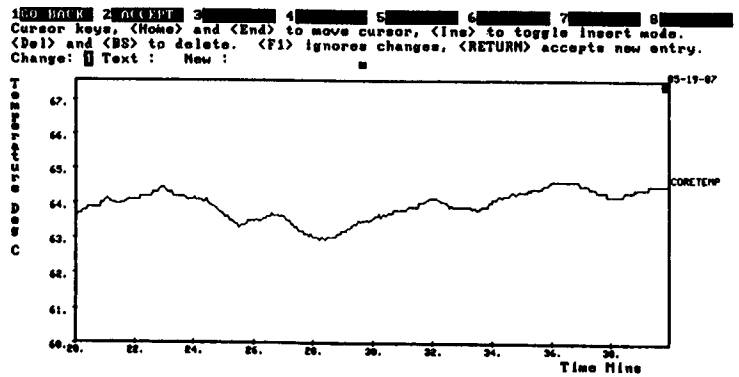

Figure 5-11. Text Utility
2. Select New with the < spacebar > and press < return >. A text cursor will appear above the graph as shown in Figure 5-11.